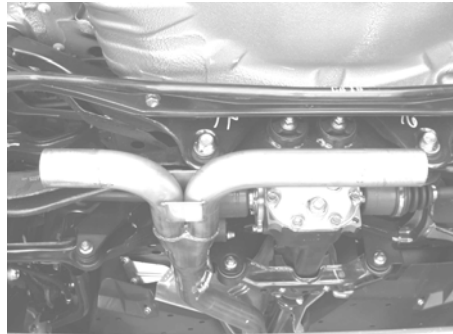

Figure 5
- Place a clamp over expanded end of y pipe assembly and set it into position as shown in figure 5 installing the hanger into the rubber bracket. DO NOT tighten the clamp.